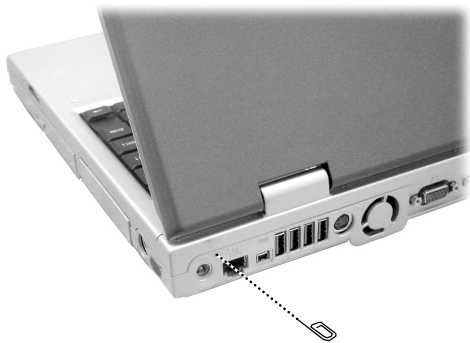

Figure 2-2 Insert a rod easy to remove
3. Insert a small rod, such as a straightened paper clip, into the eject hole near the power connector of the notebook. (Figure 2-2)